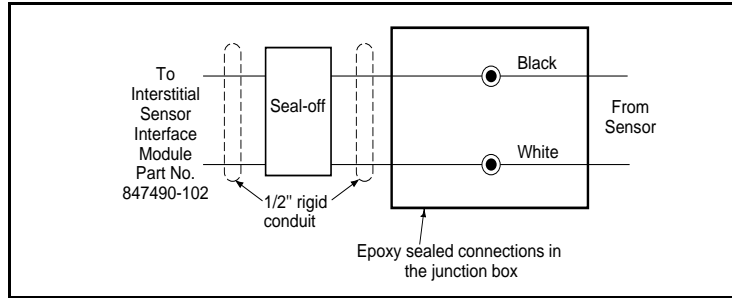

Figure 2. Oil/Water Sensor (Interstitial Sensor Interface) Wiring Installation Diagram
1. Using the wire nuts provided with the sensor, connect the sensor cable leads to the field wires in the junction box (see Figure 2).